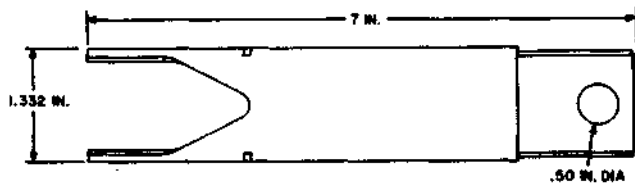

Fig. 12—793A Insertion Tool
2.13 **793A:** The 793A insertion tool (Fig. 12) is used for insertion and removal of all paddle boards.